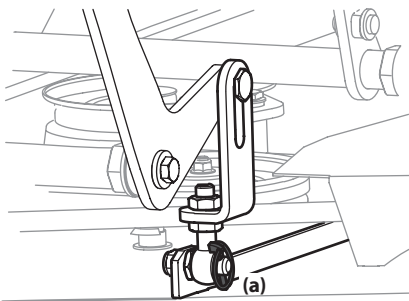

Figure 4-20
5. Remove the four lynch pins (a) that secure the deck to the deck lift assembly. See Figure 4-20.